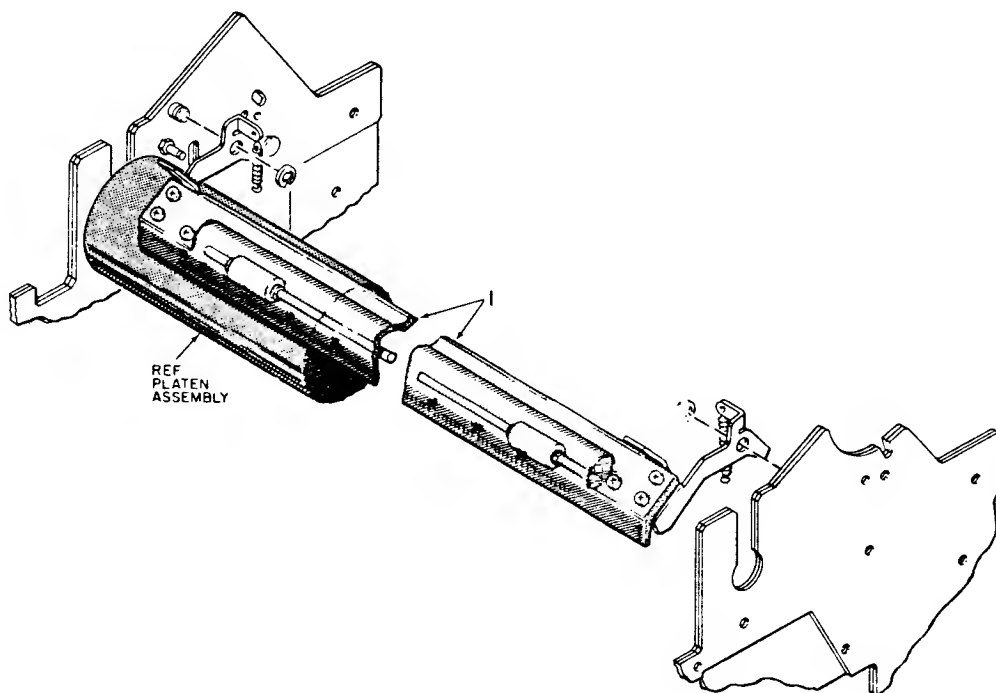

Figure 3-8B. COLUMN SCALE/TEAR BAR ASSEMBLY
3.12 COLUMN SCALE/TEAR BAR ASSEMBLY (Figure 3-8B)